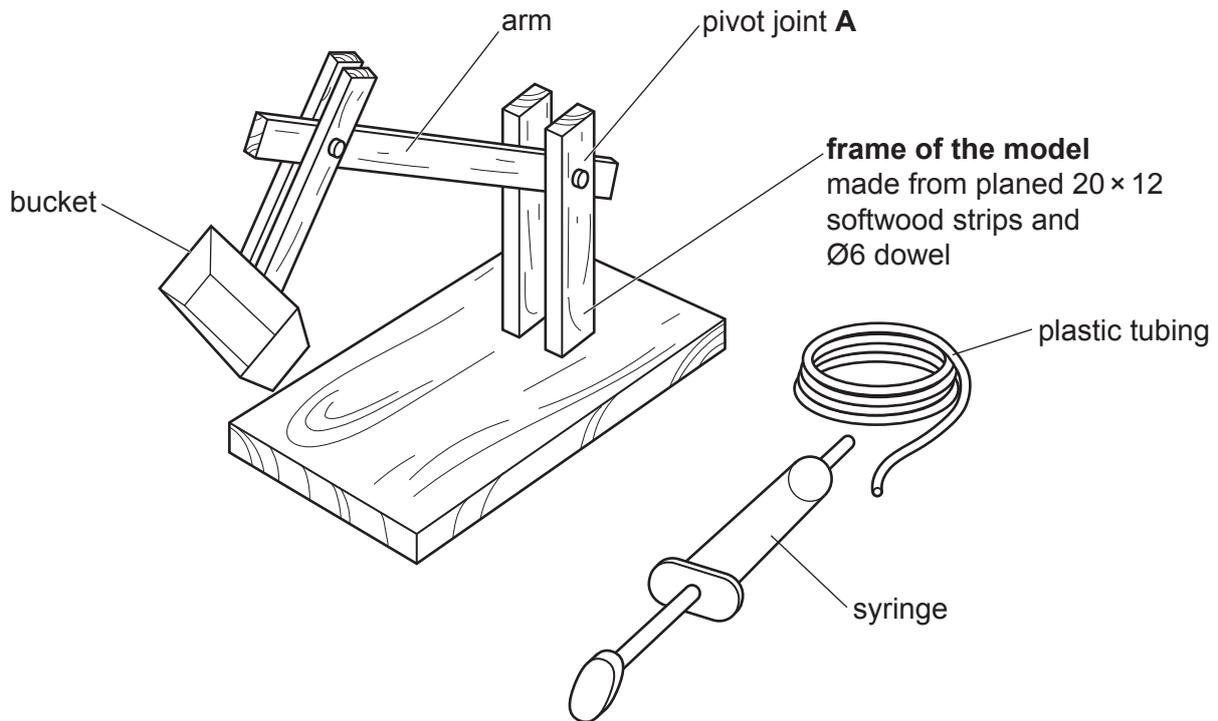

Fig. 3.1
- 3 Fig. 3.1 gives details of the parts of a model of an earth digger arm which is to be made in a school workshop.